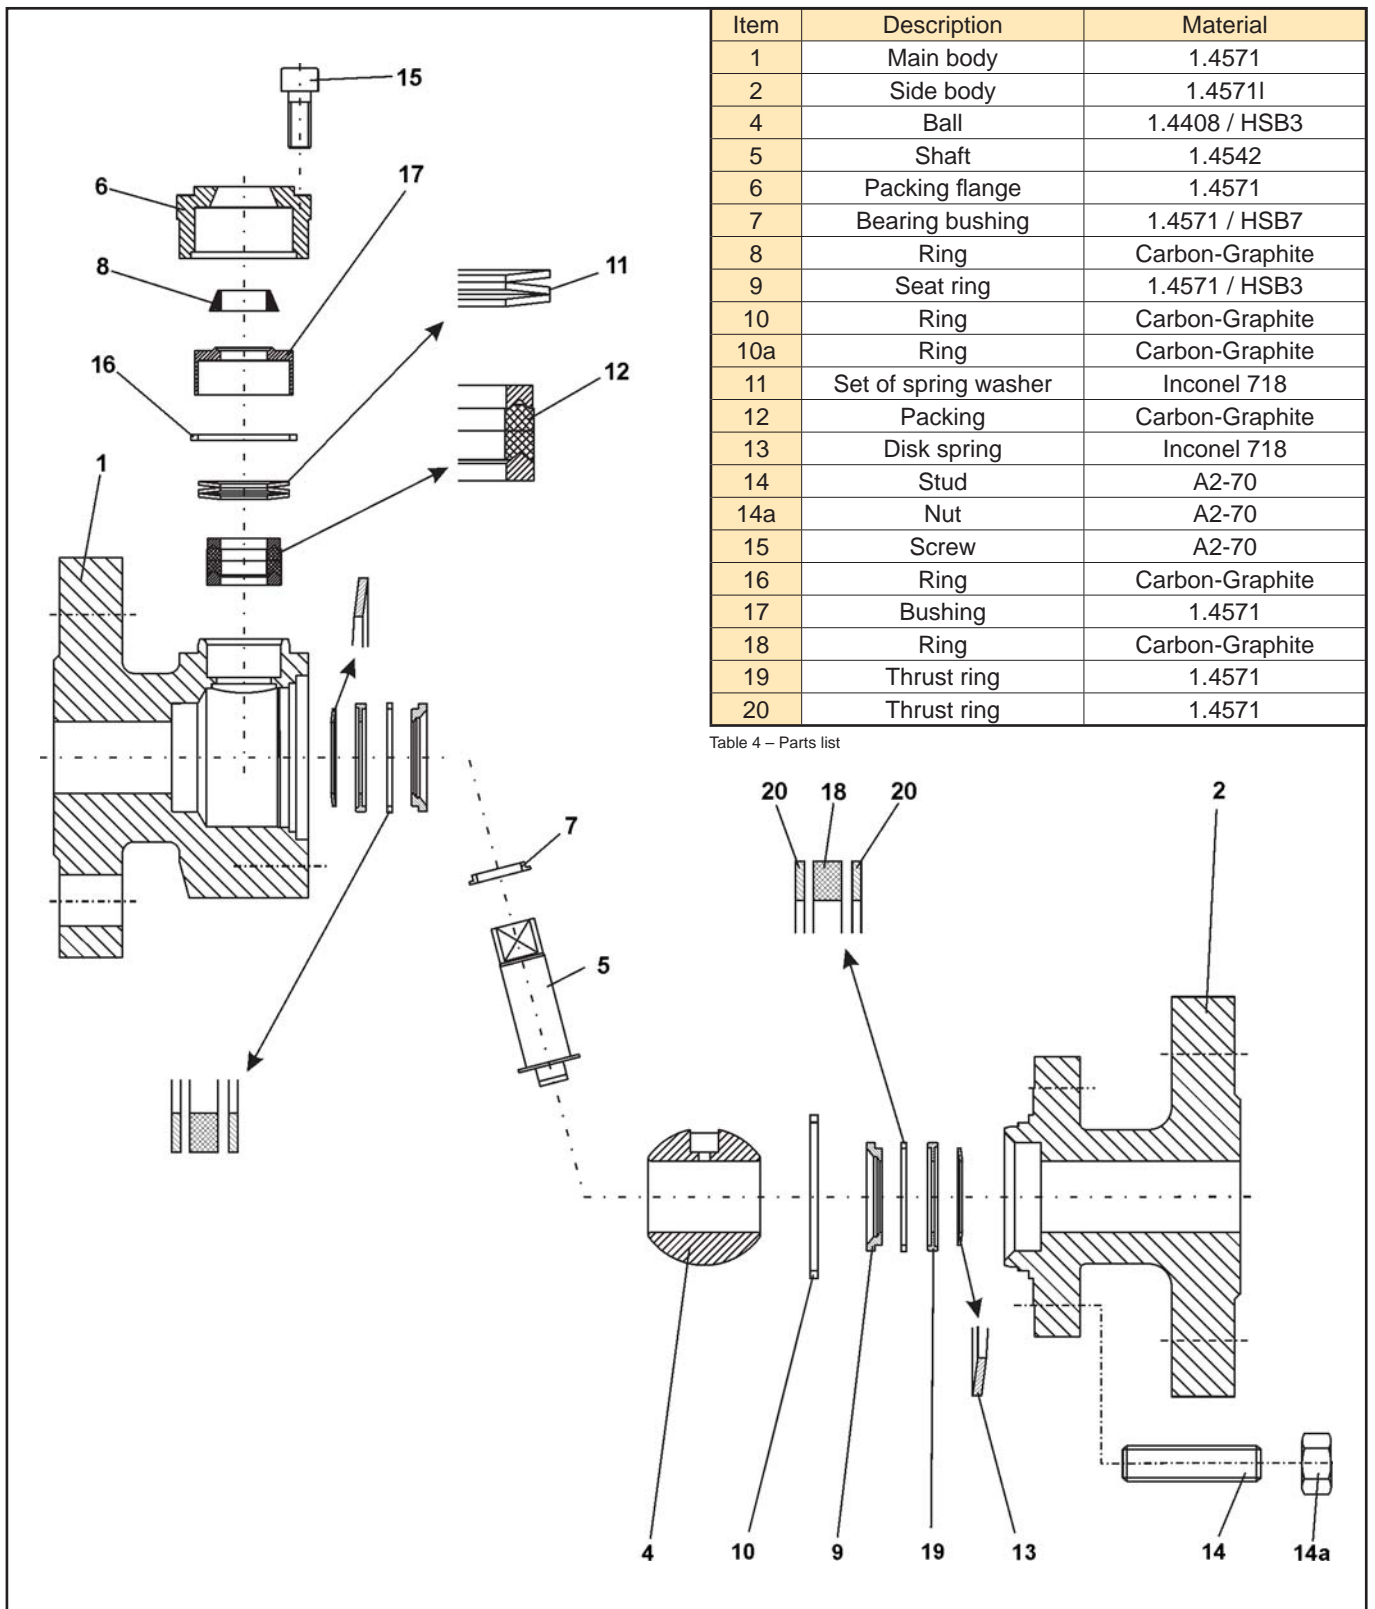

Fig. 7 - Detail drawing high-temperature Series 26a Ball Valve
The position and arrangement of the individual parts shown in the detail drawing (Fig. 7) are to be observed during assembly
Insert the disk springs (13) into the main body (1). Refer to Fig. 7 for the mounting position of the disk springs.